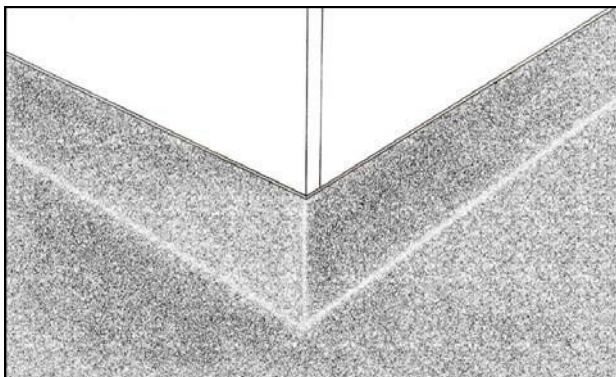

Fig 17.
6. Trim off surplus material. (See Fig 17.)